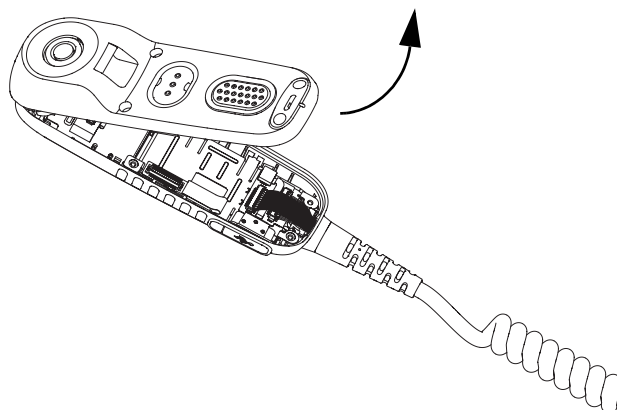

Figure 6-30 LCD and Keypad Flex BTB Removal
- 11. Unplug the Handset LCD flex and keypad flex BTB from the Handset main PCB as shown in Figure 6-30.